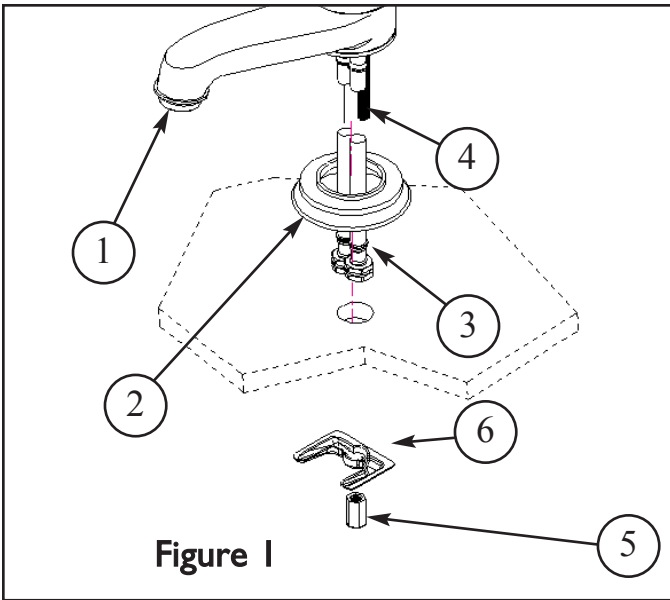

Figure 1
1. Insert HOSES (3), one at a time, and MOUNTING STUD (4) through ESCUTCHEON (2) and sink hole, (apply putty or silicone to underside of ESCUTCHEON (2)). Align SPOUT (1) and secure into place with mounting BRACKET (6) and NUT (5). See Figure 1.